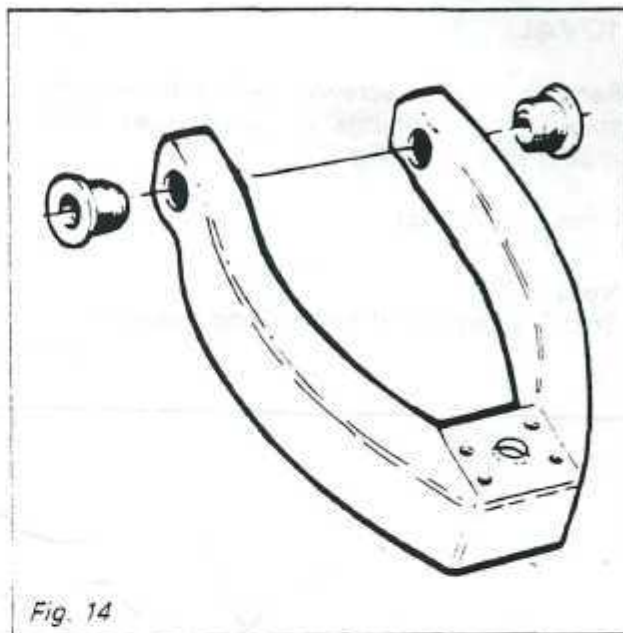

Fig. 14
4. With upper control arm assembly removed from car and using an arbor press, press the control arm bushings from control arm. *Fig. 14*